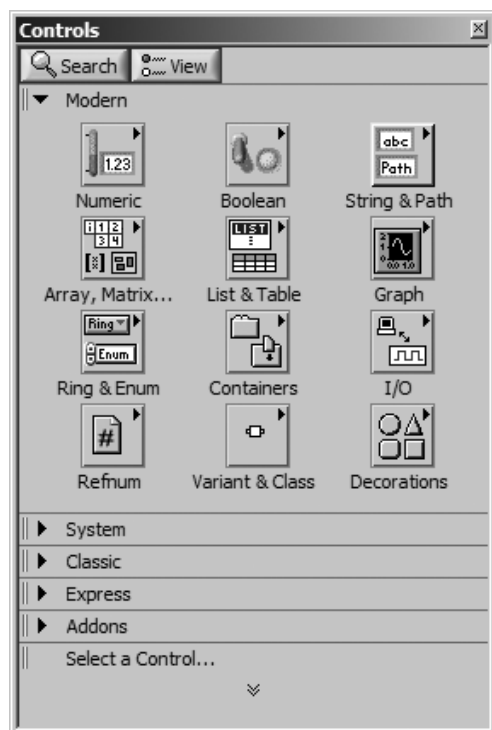

Figure 3.45
- **Category (Icons and Text)**, shown in Figure 3.45, is similar to **Category (Standard)**, except that each item's name appears directly beneath its icon.